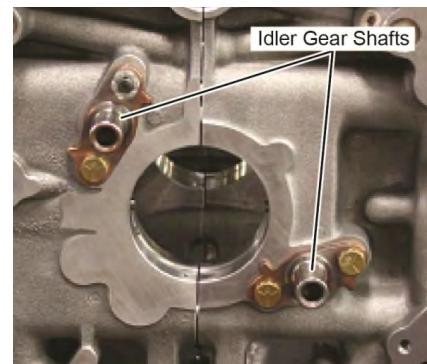

Figure 17
- (2) Remove the nut and three bolts (Figure 17) that attach the crankshaft idler gear shafts to the crankcase halves.
- (3) Remove the two crankshaft idler gear shafts from the rear of the crankcase halves (Figure 17).